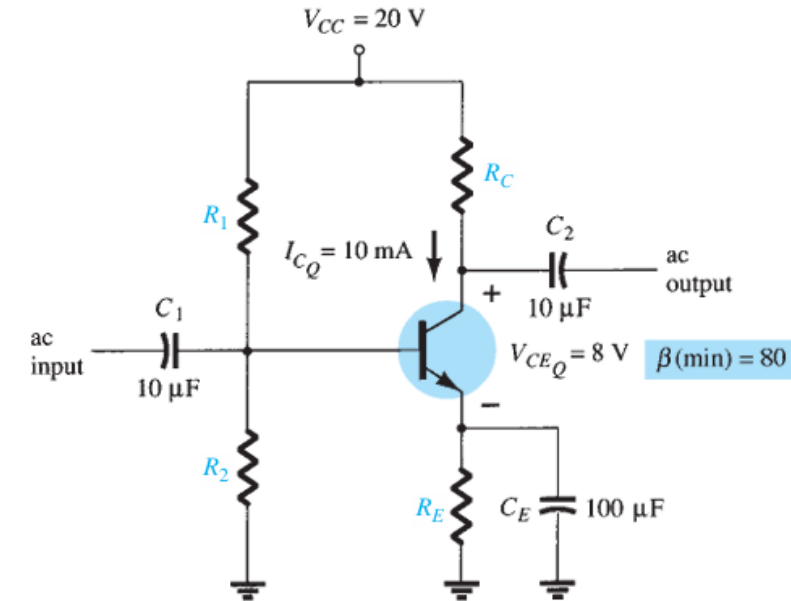

FIG. 4.63
- **EXAMPLE 4.25** Determine the levels of R_C , R_E , R_1 , and R_2 for the network of Fig. 4.63 for the operating point indicated.